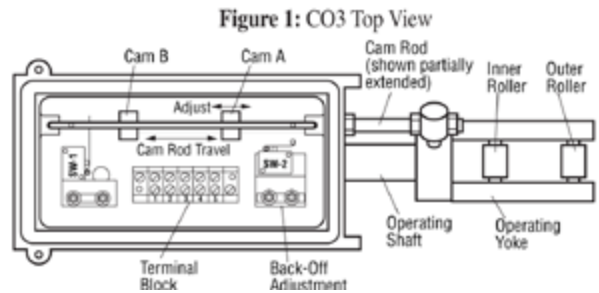

Figure 2: Mounting Plate Dimensions
6. Temporarily attach the CO3 mounting plate to the engine skid or base, or mark its location on the skid or base. (See Figure 2 for dimensions.)